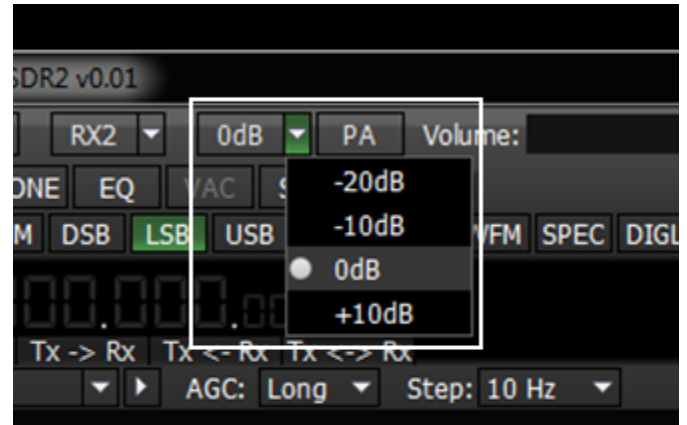

Figure 8.13 – Attenuator and preliminary amplifier activation
- Attenuator on or preliminary amplifier is activated by corresponded button within -20 dB up to +10 dB with 10 dB step (view Figure 8.13)